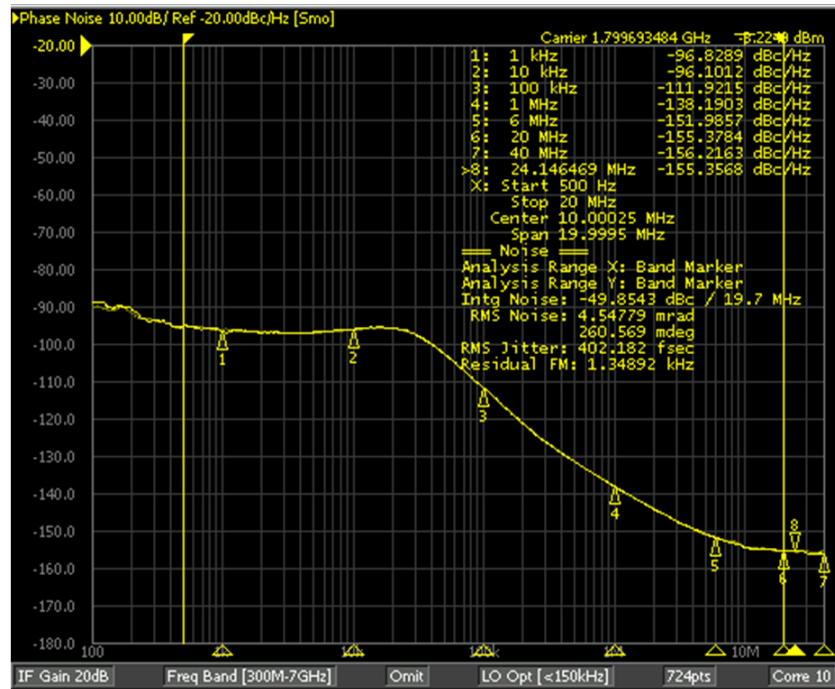

Figure 15. Integer Mode Phase Noise at 1800 MHz
- The TRF3722 phase noise at 1800-MHz frequency at the LO\_OUTP SMA connector is shown in Figure 15.